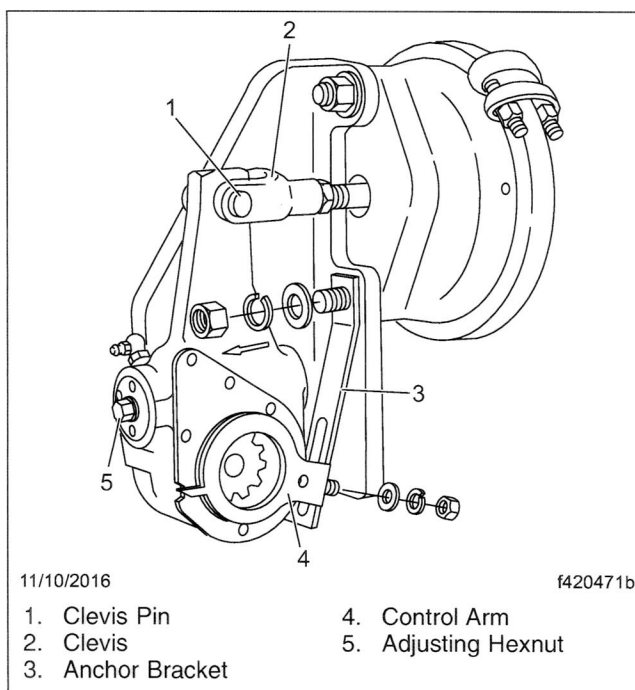

Fig. 3, Disconnecting Slack Adjuster from Clevis
- 7.1 Remove the cotter pin from the clevis pin; remove the clevis pin. See **Fig. 3**.